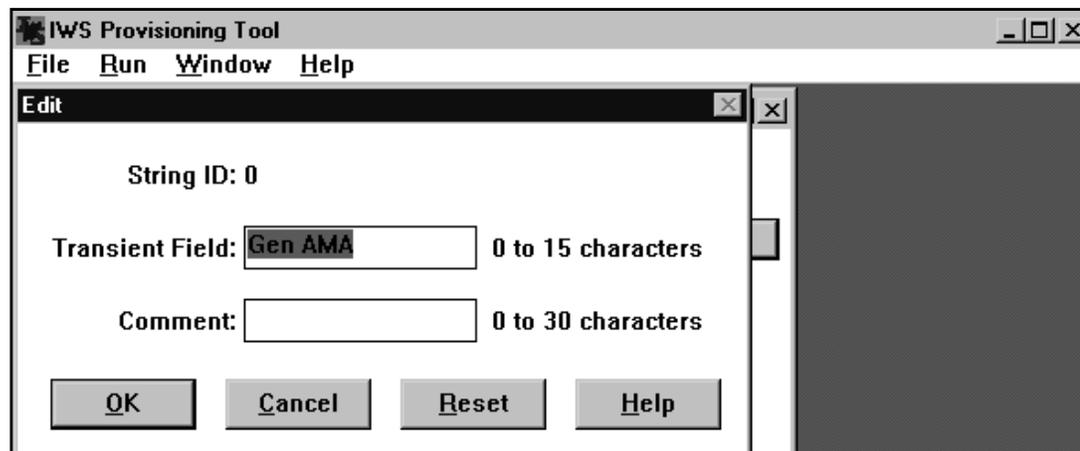

FIGURE 116. Example of Edit dialog box
5. To change the data displayed, select the data. For example, select the line that contains String ID as 0, Text as Gen AMA. Then select Edit. (See Figure 116.)